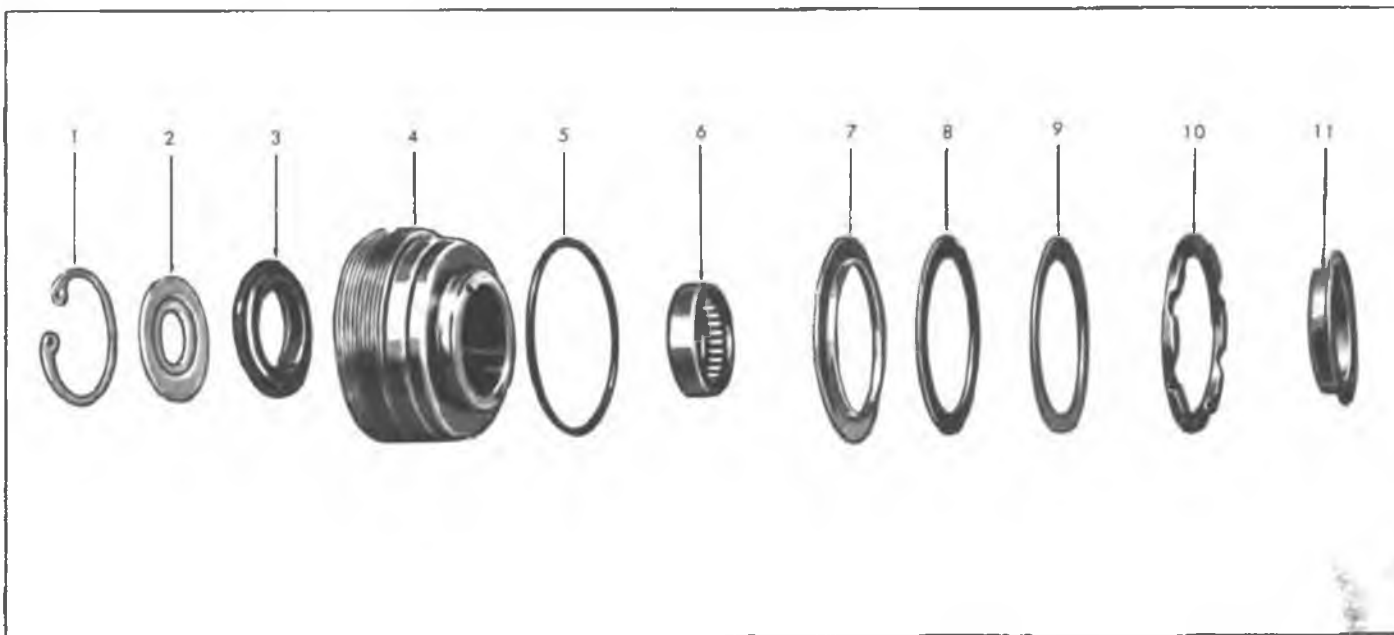

Fig. 37 - Adjuster Plug - Exploded View
1. If the seal **ONLY** is to be replaced and not the bearing, remove the retaining ring with the Internal Pliers J-5403, then remove the dust seal. Pry the seal from the bore of the adjuster plug (fig. 37).